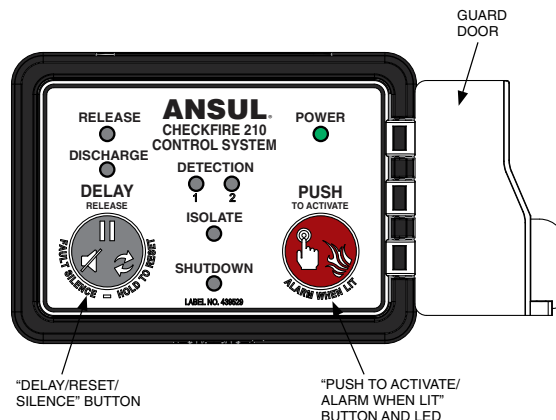

Figure 4-14-3 CHECKFIRE 210 ICM
The operator may activate the system by pressing the red button on the CHECKFIRE 210 ICM located to the right of the steering column, mounted to the right hand wall of the cab (see Figure 4-14-1 and Figure 4-14-3).
1. Swing the guard door open, press the red “Push to Activate” button on the CHECKFIRE 210 ICM and then LEAVE THE VEHICLE (see Figure 4-14-3). Fire retardant will be released, the engine will shut down, and the batteries will be disconnected from the electrical system.